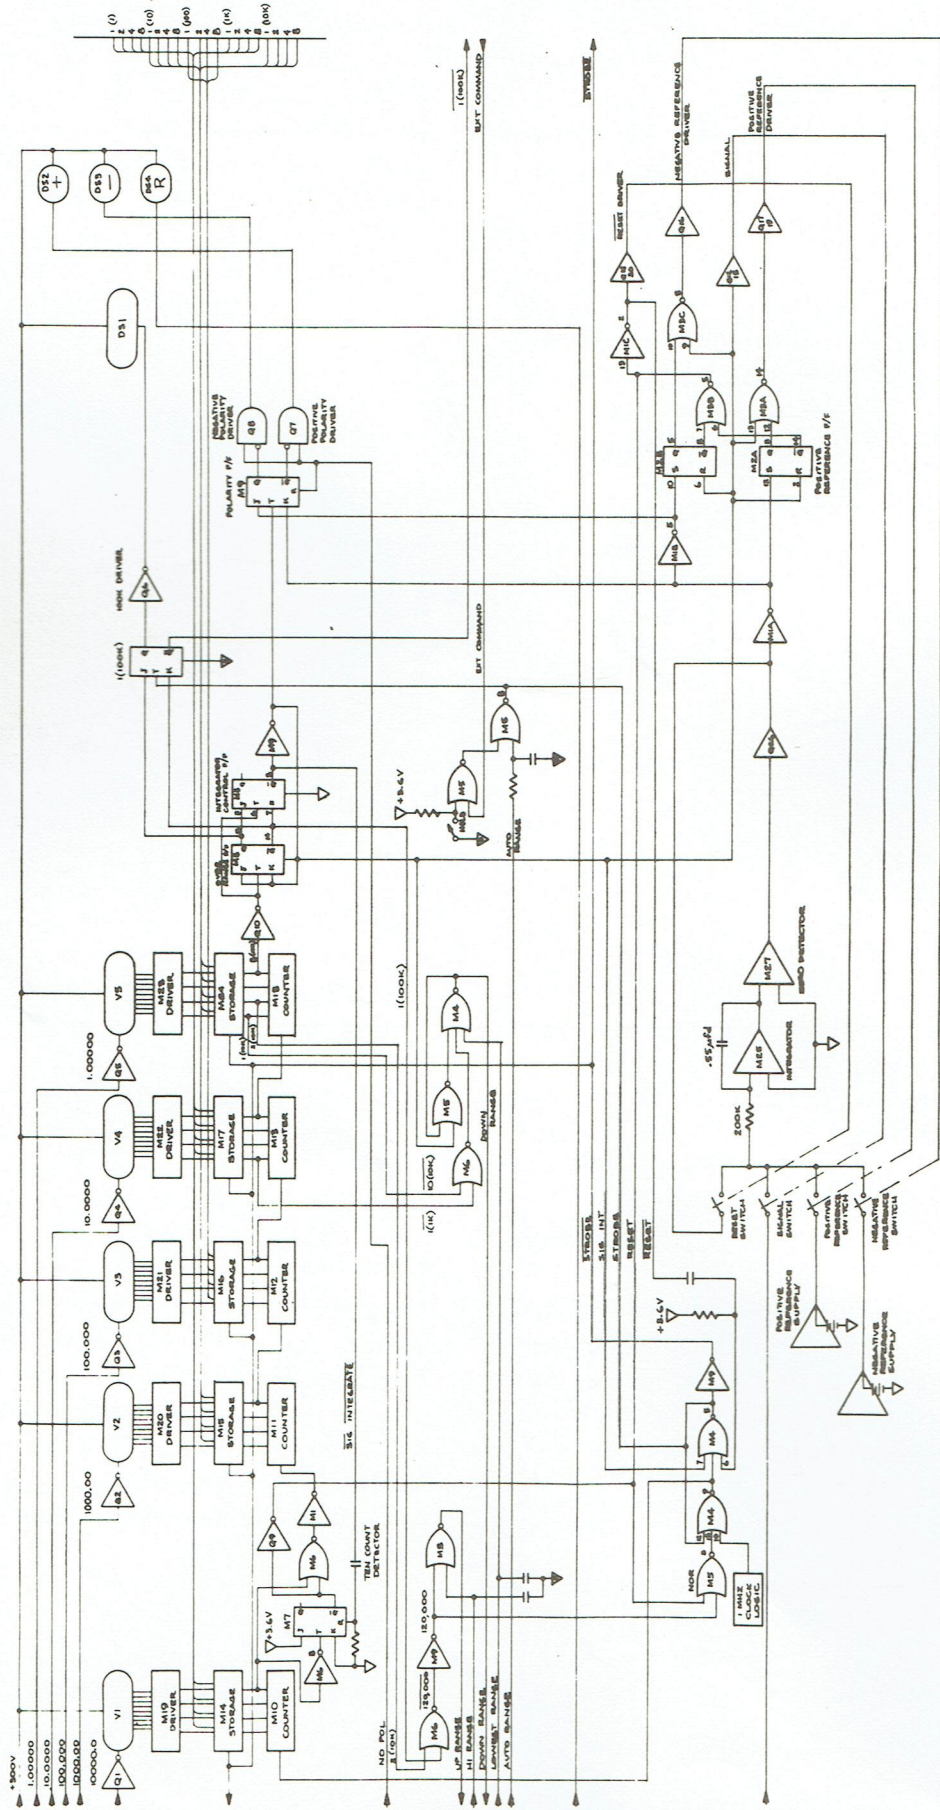

Figure 4.4 - Digitizing and Display Module - Simplified
4.19 Figure 4.4 is a simplified version of the actual schematic which appears in the "drawings" section of this manual. As shown, all lines and logic levels are as they actually appear in the instrument. "Nor" gates which are used as inverters are shown as inverters and "nor" gates which are interconnected to form RS flip-flops are shown as RS flip-flops.